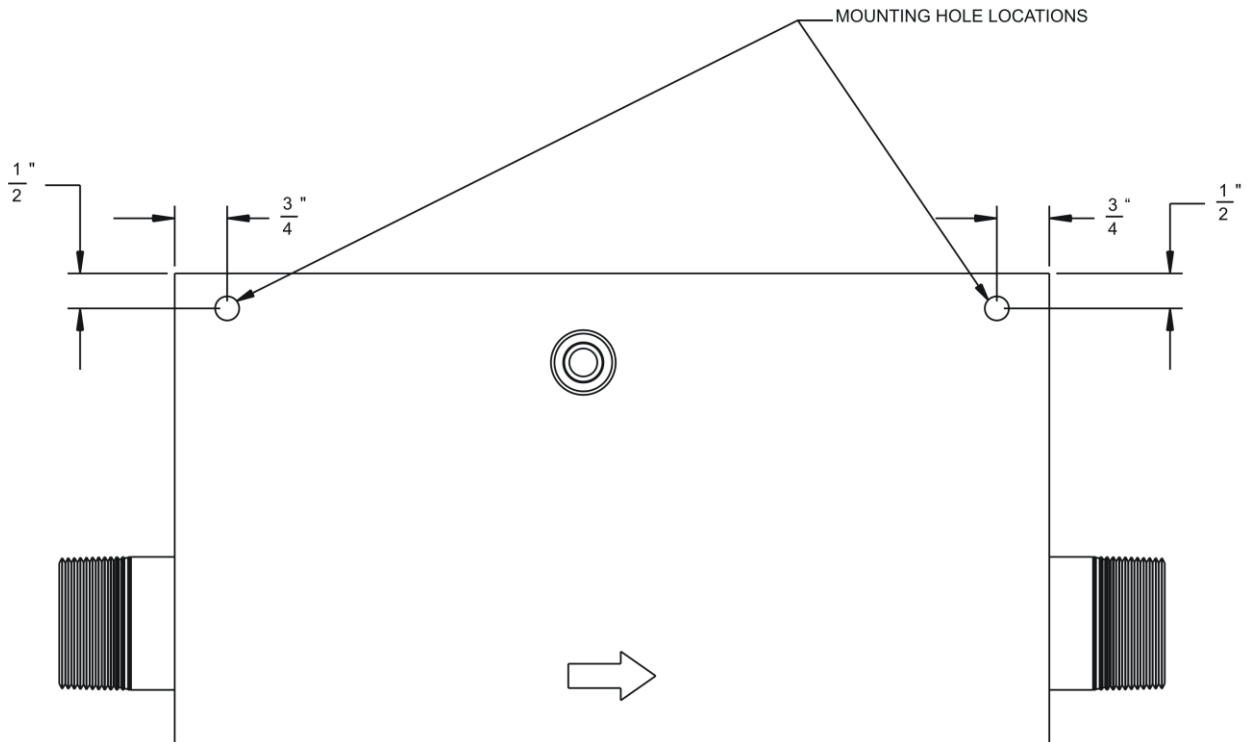

Figure 1 Mounting holes
2. If holes are needed to mount or install the FPS, see the following (Figure 1 Mounting holes).